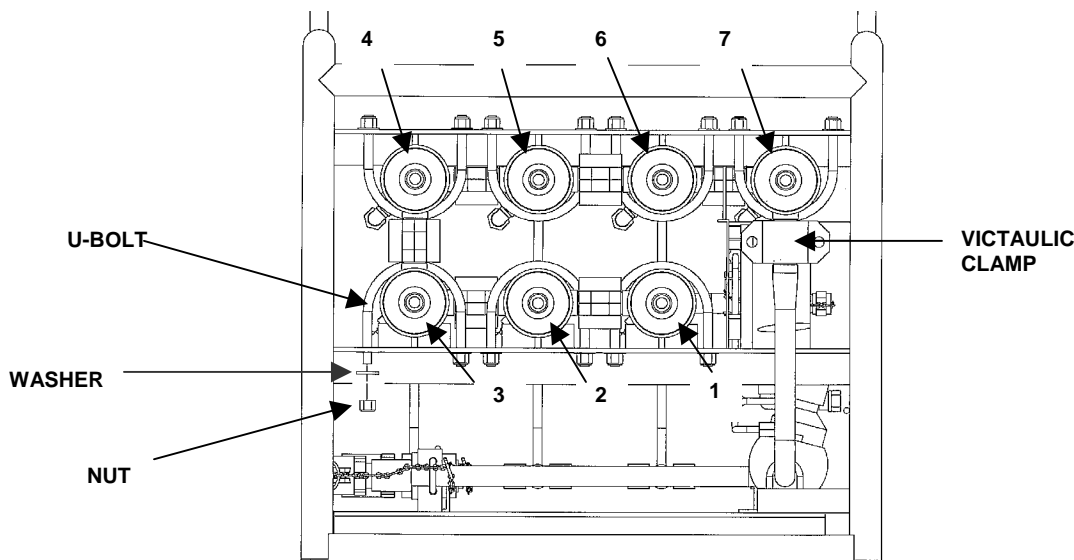

Figure 2. Pressure Vessel Mounting Hardware.
4. Remove two nuts and washers from U-bolt and remove the U- bolt. See Figure 2.
- b. Install U-bolt, two nuts, and two washers. Do not tighten. See Figure 2.